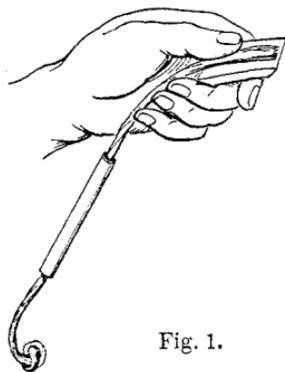

Fig. 1.
wick, a roll of touch-paper, a mass of hair of certain plants, and a long string of pith sewed up in a sheath. To ignite these, we must hold them as in fig. 1, and use the steel to strike downwards upon the flint. In the second division (b) are:—tinder of burnt rags, tinder of any kind with grains of gunpowder strewed over it, and touch-wood. All these require tinder-boxes, as explained below. There are also many other
*Cotton Lamp-wick.*—A piece of it drawn through a tin tube, to shield the previously charred part from being rubbed off, is excellent in dry climates. (See fig. 1, p. 180.)